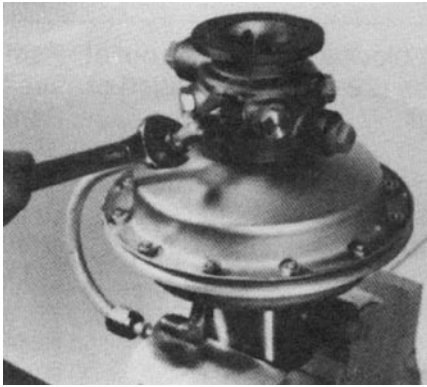
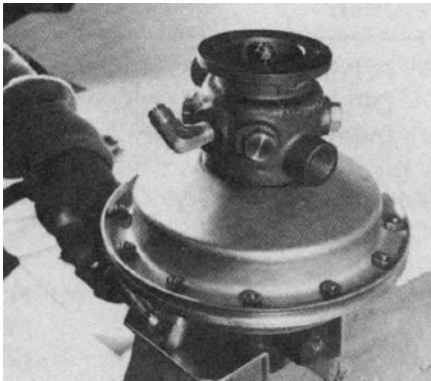

Figure 4-3 Removing tube assembly.
Figure 4-4 Applying air pressure to raise air piston and rod.
- 4.4 Remove tube assembly (48) by removing the two fittings from the two 90° elbows on the upper and lower housing. See Figure 4-3. Do not remove elbows. Apply air hose and air pressure to lower 90° elbow to raise air piston (14) and shuttle (4A) to upper position. See Figure 4-4.